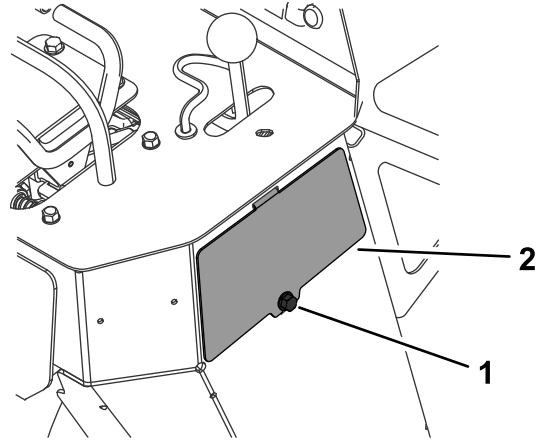

Figure 50
3. Remove the bolt and access panel on the right side of the machine (Figure 50).
5. Install the access panel and secure it with the bolt (Figure 50).